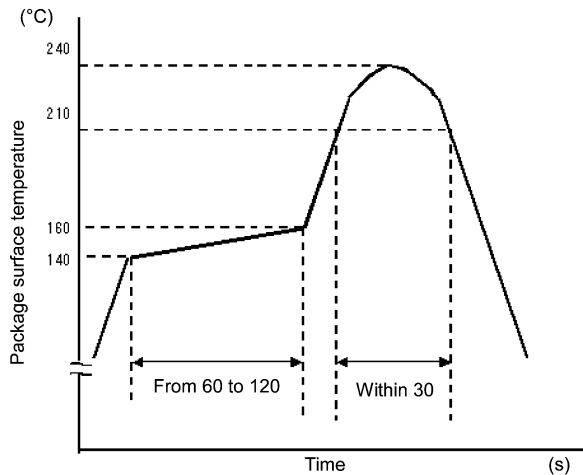

Fig. 12.1.1 An Example of a Temperature Profile When Sn-Pb Eutectic Solder Is Used
- When using soldering reflow (See Fig. 12.1.1 and 12.1.2)